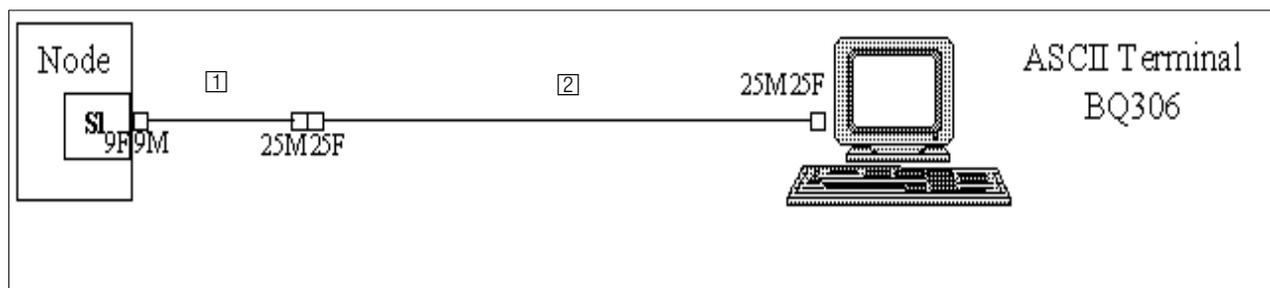

Figure 10. Cabling of the System Console to a Node's S1 Plug
- Two-node Escala EPC: the System Console can be used alone. In this case the System Console is connected to a node's S1 port, as shown on Figure 10. There can be two System Consoles, one per node, each one connected to a node's S1 port.